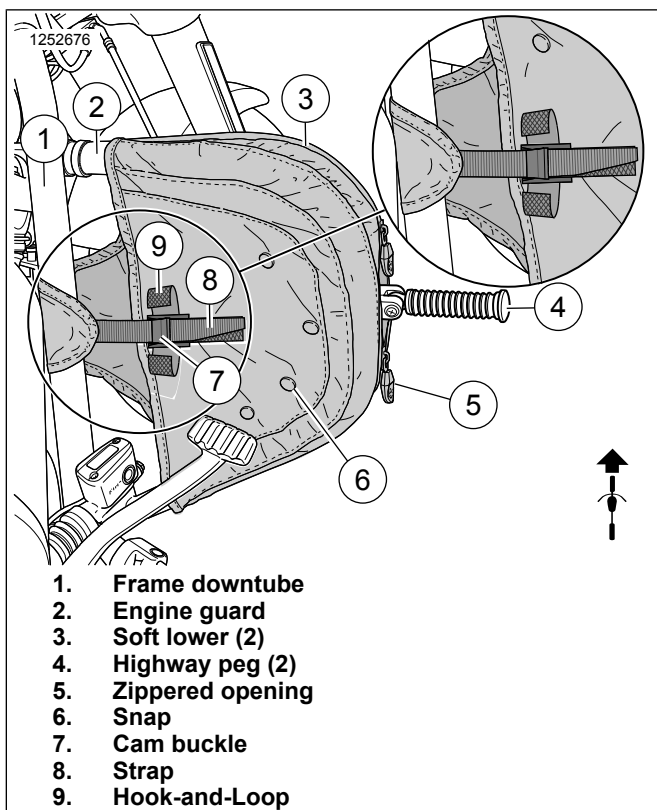

Figure 1. Softtail Engine Guard Soft Lower
See Figure 1. The zippered opening (5) along outer edge allows soft lowers to fit with highway footpegs (4).
1. Select one of the soft lowers (3), slip it over correct side of engine guard (2).
2. Wrap strap (8) around frame downtube (1), and feed through cam buckle (7).